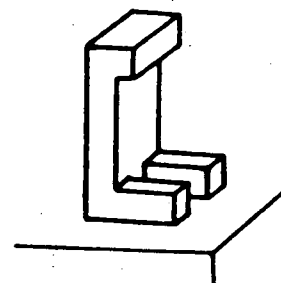

Fig. 2
1. If the piece has a flat surface that can serve as a reference, place it directly on the surface plate (Fig. 2).